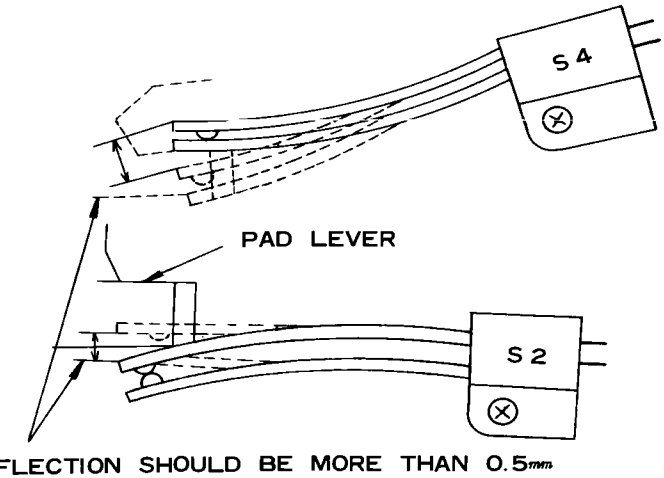

Fig. 19
a) Installation position of the muting switch (Fig. 19)